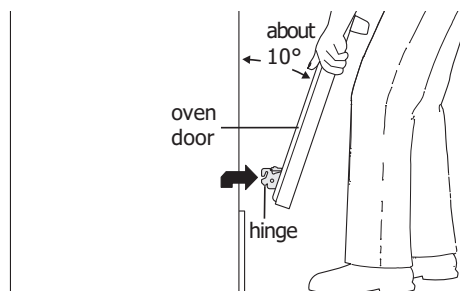
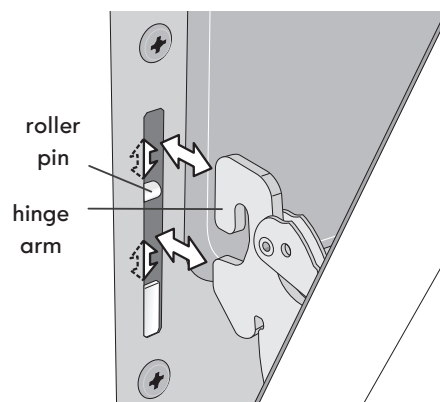

Figure 32: Holding door for removal
Figure 33: Replacement and location of hinge arm and roller pin
3. Firmly grasp both sides of oven door along the door sides. Do not use the oven door handle (Figure 32).
4. Close the door to approximately 10 degrees from the door frame (Figure 32).
5. Lift the oven door hinge arms over the roller pins located on each side of the oven frame (Figure 32).
1. Firmly grasp both sides of oven door along the door sides. Do not use the oven door handle (Figure 32).
2. Holding the oven door at the same angle as the removal position, seat the hook of the hinge arm over the roller pins located on each side of the oven door frame (Figure 32 and Figure 33). The hook of the hinge arms must be fully seated onto the roller pins.